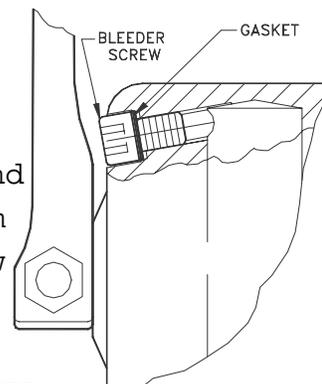

Figure 2 Sender
10. After bleeding Slaves, loosen allen screw behind handle at Sender until solid fluid (bubble-free) appears. Refer to **Figure 2**.